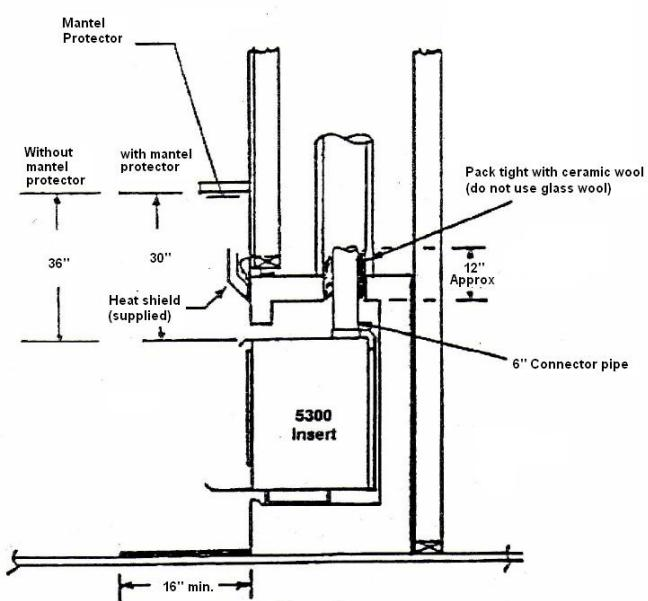

Figure 2
3. Check proper clearance to combustibles as shown in Figures 2 and 3.